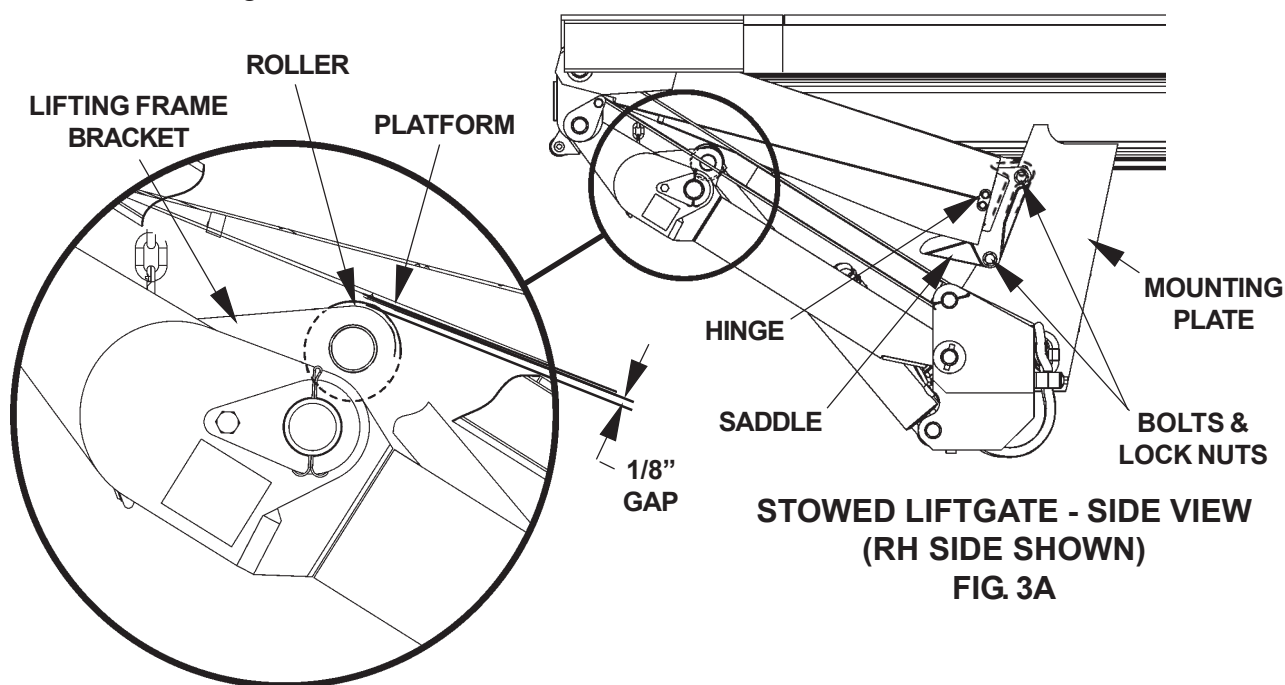

FIG. 3A
3. Stow the Platform as shown in **FIG. 3A**. Use floor jack positioned at center of Platform (near hinge) to raise Platform 1/8" above Roller (**FIG. 3B**). Reinstall Saddle, Bolts and Locknuts on RH side Mounting Plate (**FIG. 3A**). Repeat for Saddle on LH side. Butt each Saddle against Platform, and tighten lock nuts.